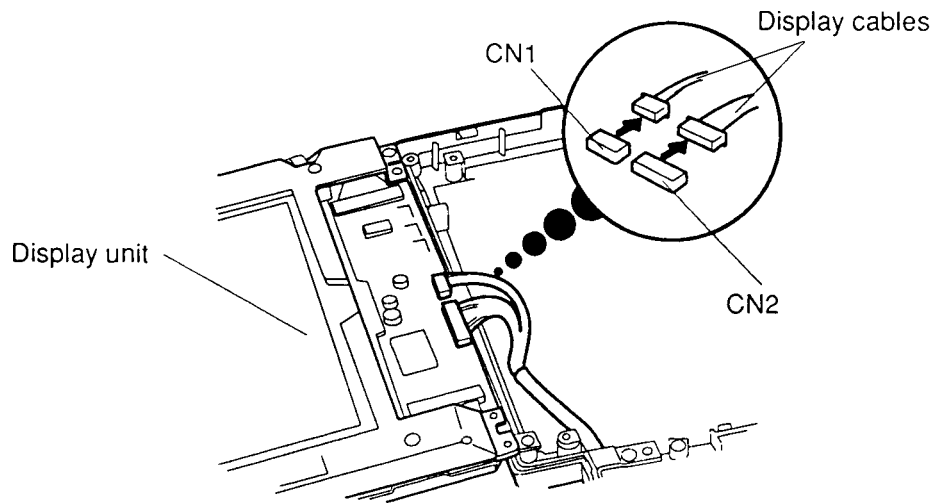

Figure 4-32 *Disconnecting the Display Cables*
5. Carefully rotate the LCD module from right to left out of the display cover and disconnect the **two display cables** from **CN1** and **CN2** on the module (Figure 4-32).